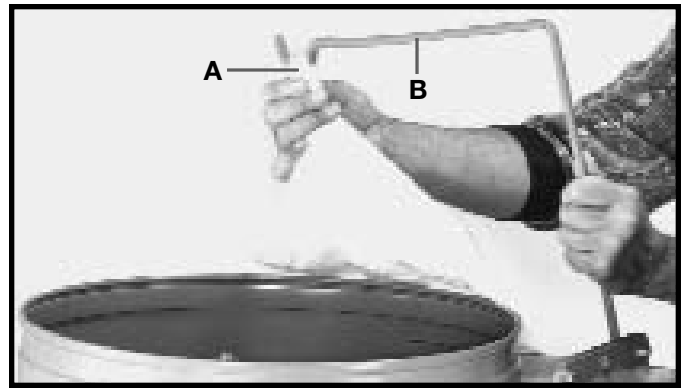

Fig. 22
1. Hook the loop on the top of filter bag (A) Fig. 22, onto filter bag support rod (B) as shown.